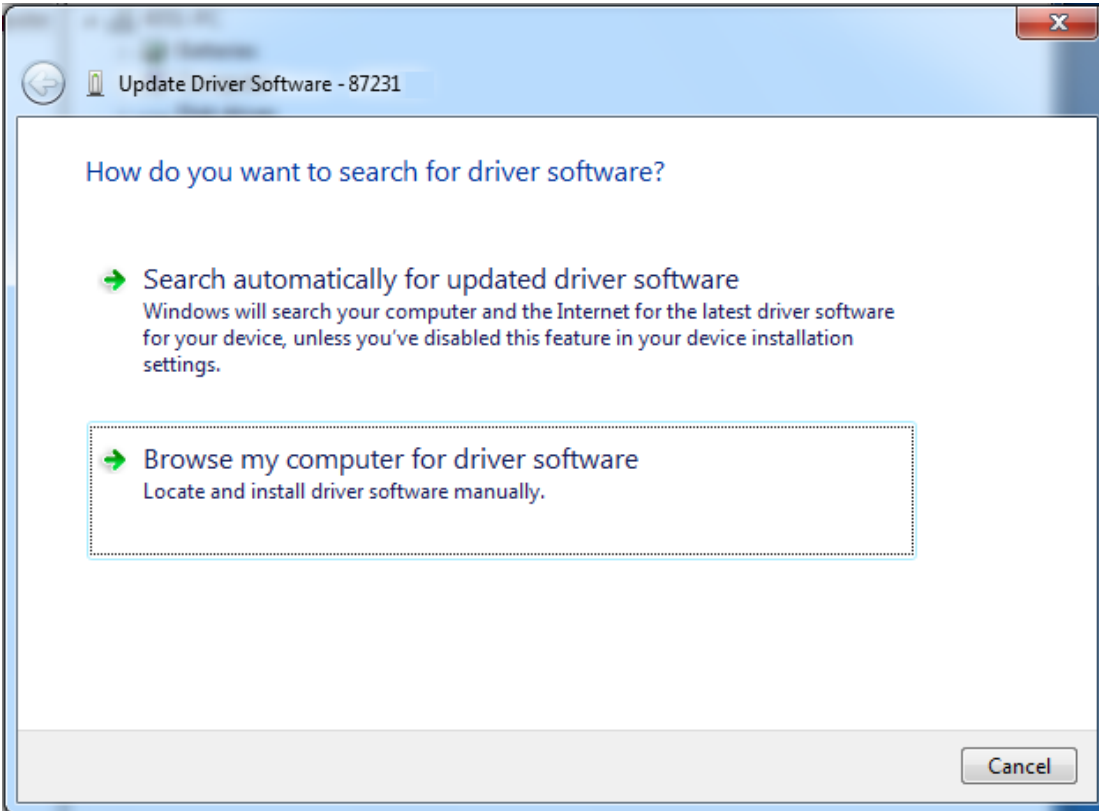

Fig. 2.7 Update Driver Software 1
Step 1: Update the drive, right click "87231" device name, and select "Update Driver Software". After that, the "Update Driver Software-87231" dialog box will pop up. The user can select the "Browse my computer for driver software" option below, as shown in Fig. 2.7: